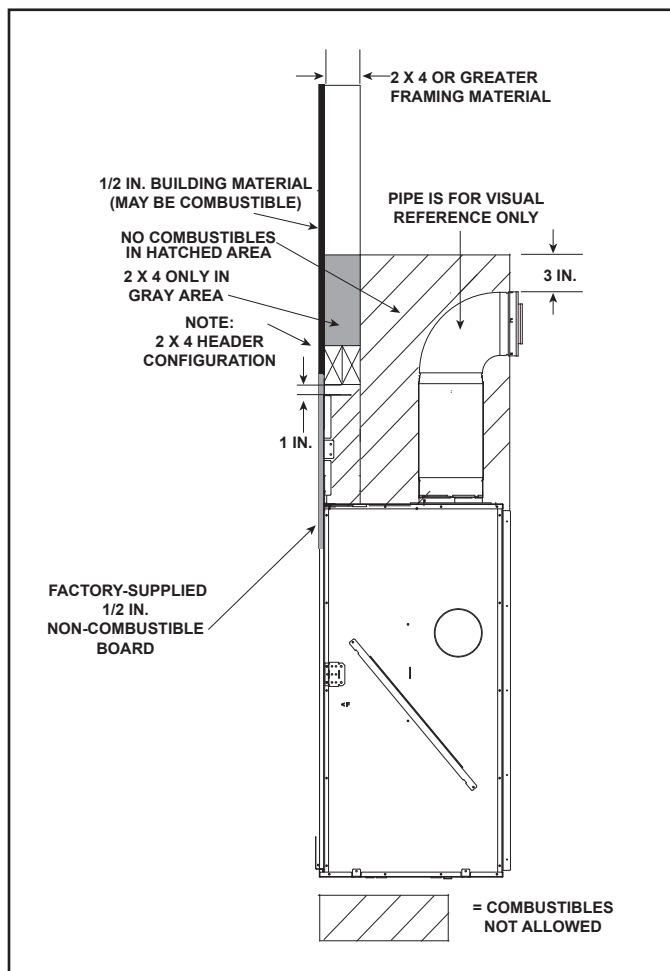

Figure 10.11 Non-Combustible Zone
4. Slide left glass assembly into left side of appliance. Attach glass retainer with fasteners saved in Step 1. Do not overtighten. See Figure 10.11.